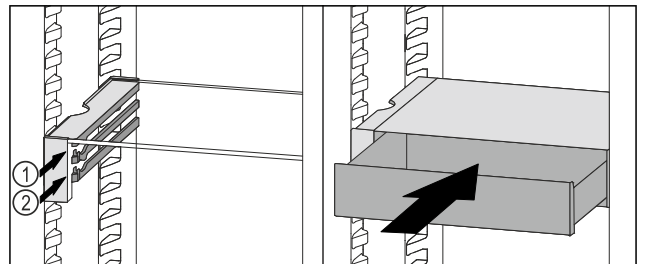

Fig. 174
- Place the VarioSafe drawer behind the stoppers on desired rib Fig. 174 (1) or Fig. 174 (2).